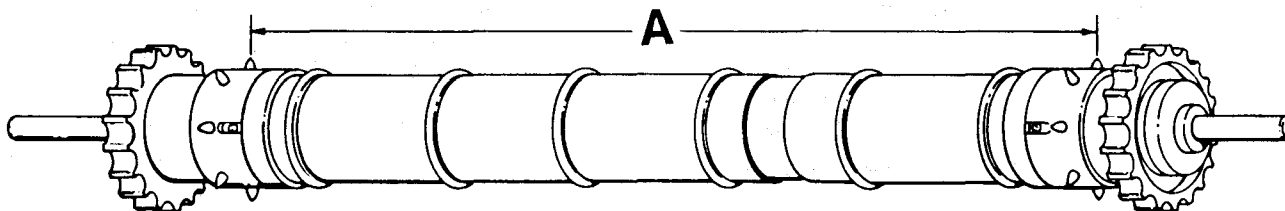
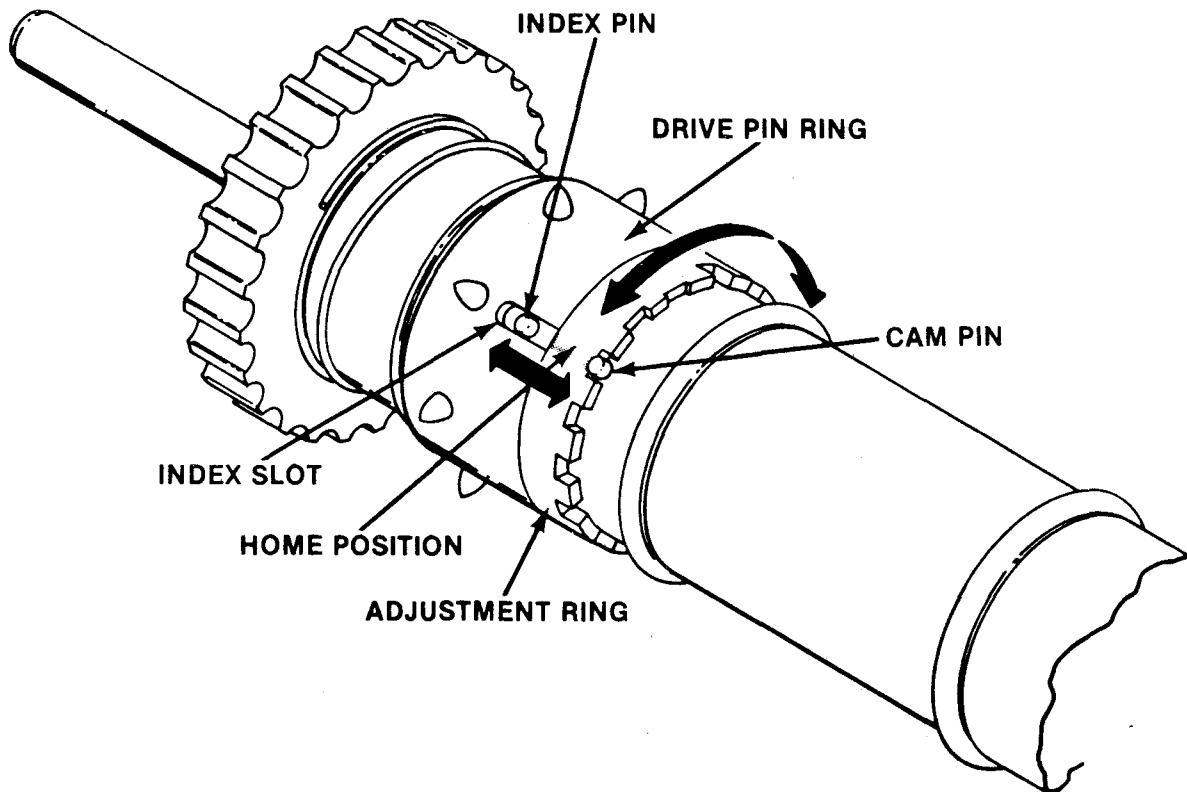

Figure 1. ADJUSTABLE PIN-FEED DRIVE ROLLER
Figure 2. ADJUSTABLE DRIVE ROLLER DETAIL
DESCRIPTION - Refer to Figure 1 (detail in Figure 2, reverse side). The Adjustable Pin-Feed Drive Roller has adjustable rings and tension springs at each end. The tension springs ensure pin-to-pin distance, once set by the operator. The Drive Pin Rings move longitudinally while retaining proper pin alignment. Each Adjustment Ring has eight fixed positions, allowing fine adjustment of pin-to-pin distance.
- o See Figure 2 for "Home Position"
DIRECTIONS - Refer to Figure 2. To adjust the pin-to-pin distance to accommodate the fan-fold paper, perform the following:
The shaded area in Figure 2 illustrates the "HOME" position (228.6 mm or 9" for short version; 238.6 mm or 9.4" for long version). The printer is shipped from the factory set in the "HOME" position.